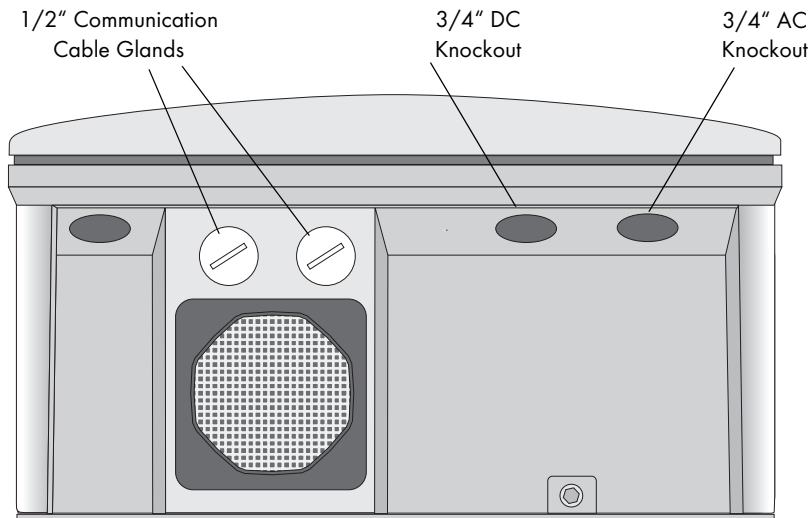

Figure 5-1: Bottom View of the Sunny Boy Showing Wiring Knockout Locations
The DC input from the PV array (via the DC disconnect enclosure) and the output to the AC utility grid connect to the inverter inside the Sunny Boy's case. The internal AC and DC wiring terminals accept a maximum wire size of #6 AWG. Knockouts are provided on the bottom of the Sunny Boy near each of the terminals for the wires to enter the case, see Figure 5-1.
4. Install a 3/4-inch conduit fitting in the Sunny Boy's AC wiring knockout (the knockout on the right side of the Sunny Boy, as shown in Figure 5-1). Fasten the conduit fitting on the inside of the Sunny Boy with the appropriate locknut.